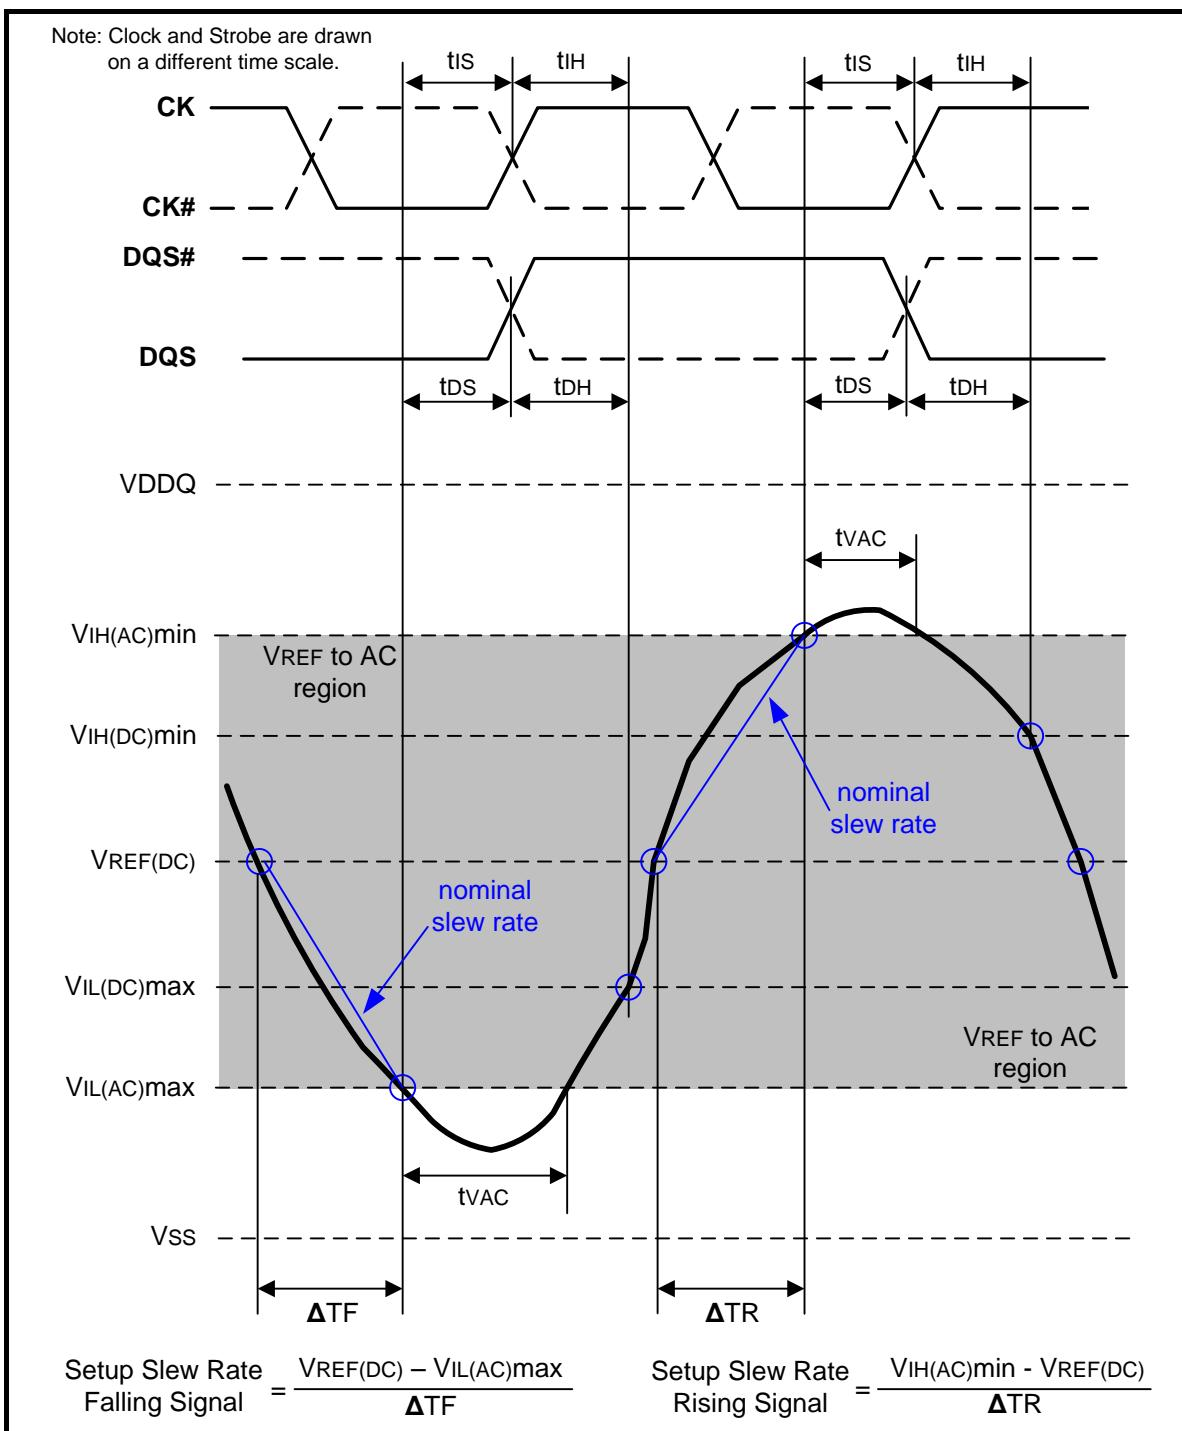
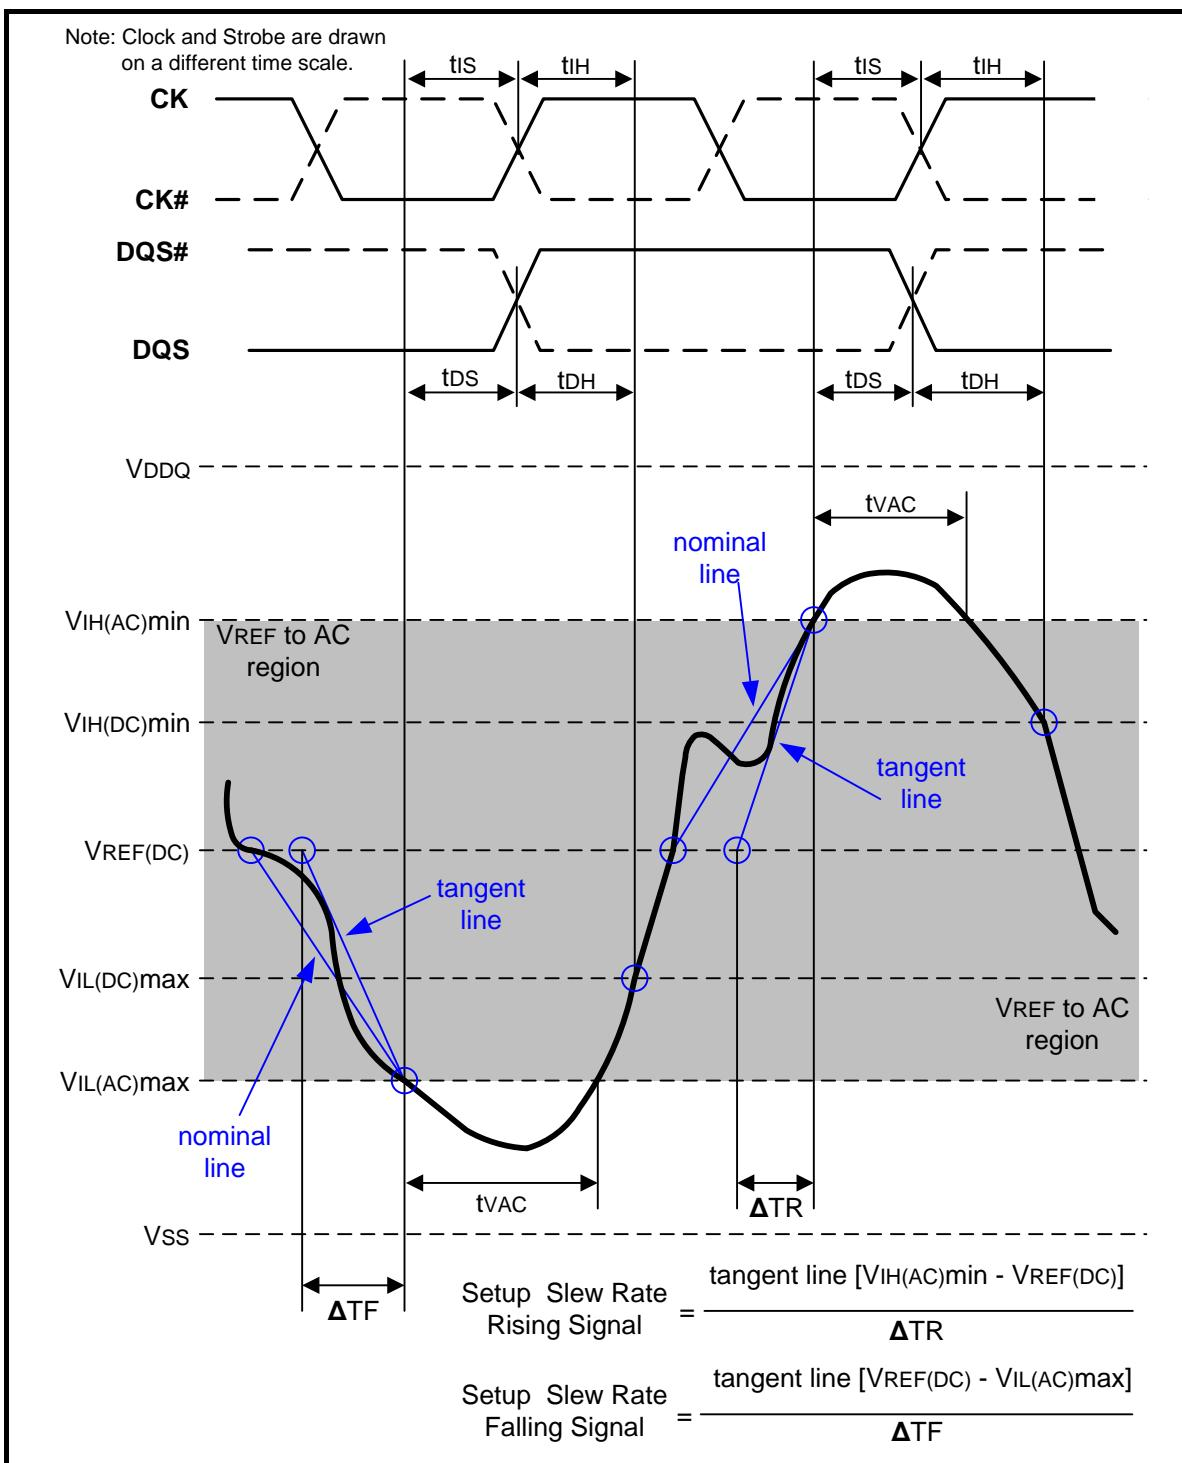

Figure 107 – Illustration of nominal slew rate and t_{VAC} for setup time t_{DS} (for DQ with respect to strobe) and t_{IS} (for ADD/CMD with respect to clock)
Figure 109 – Illustration of tangent line for setup time t_{DS} (for DQ with respect to strobe) and t_{IS} (for ADD/CMD with respect to clock)
Setup (tIS) nominal slew rate for a rising signal is defined as the slew rate between the last crossing of VREF(DC) and the first crossing of VIH(AC)min. Setup (tIS) nominal slew rate for a falling signal is defined as the slew rate between the last crossing of VREF(DC) and the first crossing of VIL(AC)max. If the actual signal is always earlier than the nominal slew rate line between shaded 'VREF(DC) to AC region', use nominal slew rate for derating value (see Figure 107). If the actual signal is later than the nominal slew rate line anywhere between shaded 'VREF(DC) to AC region', the slew rate of a tangent line to the actual signal from the AC level to VREF(DC) level is used for derating value (see Figure 109).
Setup (tDS) nominal slew rate for a rising signal is defined as the slew rate between the last crossing of VREF(DC) and the first crossing of VIH(AC)min. Setup (tDS) nominal slew rate for a falling signal is defined as the slew rate between the last crossing of VREF(DC) and the first crossing of VIL(AC)max (see Figure 107). If the actual signal is always earlier than the nominal slew rate line between shaded 'VREF(DC) to AC region', use nominal slew rate for derating value. If the actual signal is later than the nominal slew rate line anywhere between shaded 'VREF(DC) to AC region', the slew rate of a tangent line to the actual signal from the AC level to VREF(DC) level is used for derating value (see Figure 109).